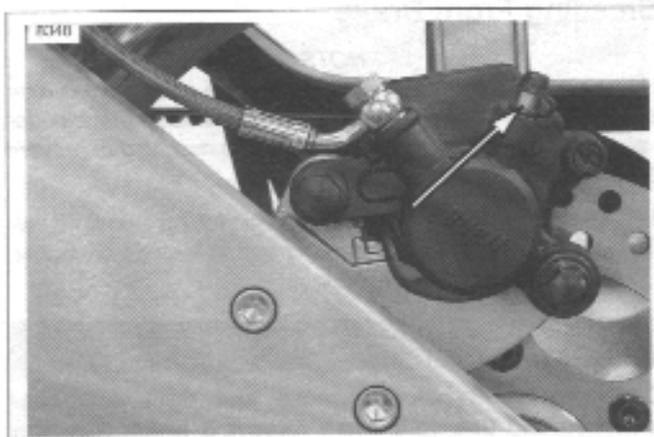

Figure 1-8. Rear Caliper Bleeder Valve
1. See Figure 1-8. Install end of plastic tubing over rear caliper bleeder valve; place other end in a clean container. Stand motorcycle upright.